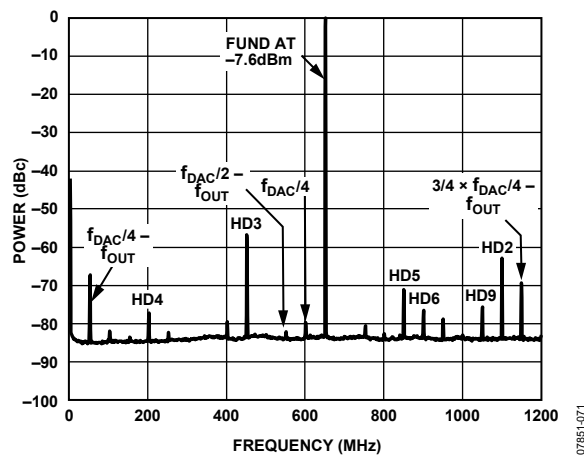

Figure 70. Spectral Plot
The AD9739 output spectrum contains spectral artifacts that are not part of the original digital input waveform. These non-ideal artifacts included harmonics (including alias harmonics), images, and clock spurs. Figure 70 shows a spectral plot of the AD9739 within the first Nyquist zone (that is, dc to  $f_{\text{DAC}}/2$ ) reconstructing a 650 MHz, 0 dBFS sine wave at 2.4 GSPS. Besides the desired fundamental tone at the  $-7.8$  dBm level, the spectrum also reveals these nonideal artifacts that also appear as spurs above the measurement noise floor. Because these nonideal artifacts are also evident in the second and third Nyquist zones during mix mode operation, the effects of these artifacts should also be considered when selecting the DAC clock rate for a target RF band.
4. The magnitude of these images for a given device is dependent on several factors including DAC clock rate, output frequency, mu controller phase setting, and divide-by-4 clock divider phase (Register 0x14, bit [7:6]). Table 30 shows how the magnitude of these images vary as the phase is varied for the case represented in Figure 70. Because the phase varies at power up, the image magnitude varies making it difficult to compensate digitally through a one-time factory calibration procedure. Also, the image magnitude can vary a few decibels over temperature and between devices due to process dependencies. (Note that the AD9739A is a viable option if factory calibration is considered acceptable for nonmultichip synchronization applications operating with clock rates in the 1.6 GSPS to 2.5 GSPS range).